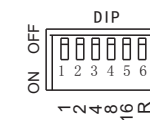

Fig. 3
1. DIP switch setting: DIP1-3 as program switch, please see setting as follow (1=ON, 0=OFF), DIP 4-5 is blank, DIP 6 is for remote controller (Fig. 3)